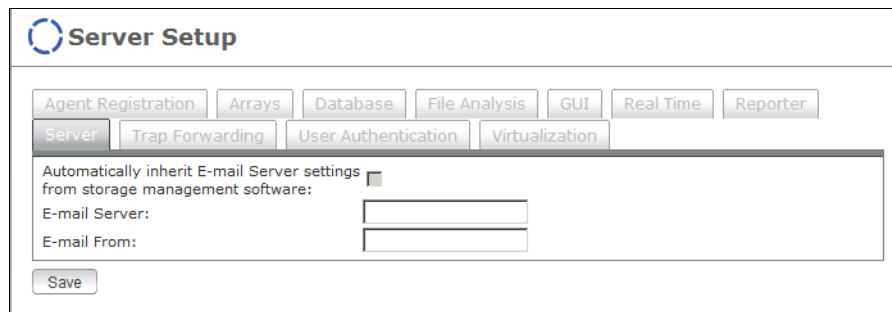

Figure 14-23 Server Setup
- Click **Administration** → **Server Setup** in the navigation bar to display the Server Setup window as shown in Figure 14-23.